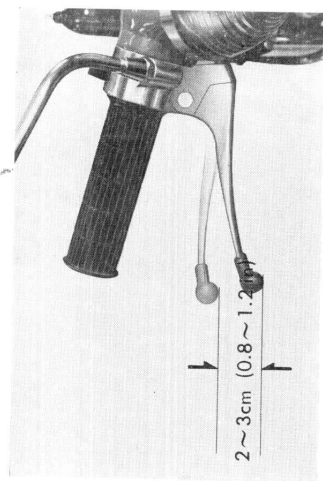

Figure 6-35. Free play of front brake lever
- a. The free play of the brake lever, that is, the distance between the normal attitude and the point where the brake starts to take hold should be 2 ~ 3cm (0.73 ~ 1.12 in). (Fig. 6-35)